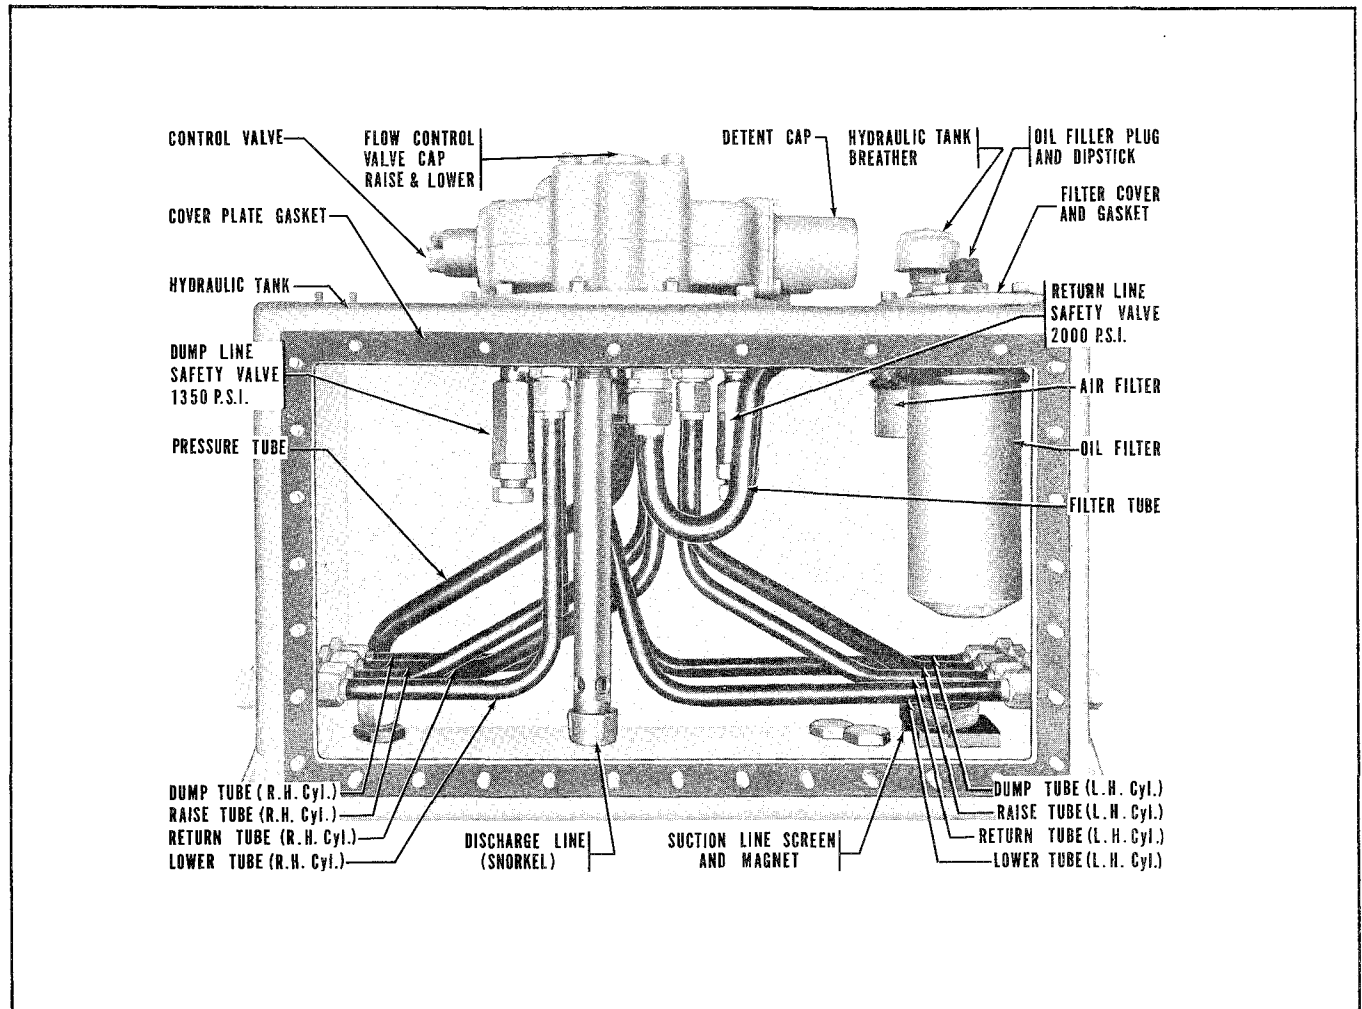

FIG. 7 - HYDRAULIC TANK
The dump line safety valve and the return line safety valve, located inside of the hydraulic tank as shown in Fig. 7, are properly adjusted at the factory and require no further adjustment in the field.
The oil filter, located inside of the hydraulic tank, as shown in Fig. 7, has a micronic element which should be replaced after every 100 hours of operation, or more often if conditions warrant. When the oil is at operating temperature, all oil is 100% filtered. Refer to Fig. 7 and replace the oil filter element as follows:
The tank breather (Fig. 7) should be serviced after every 10 hours of operation, or more often if conditions warrant. The breather element should be replaced after every 100 hours of operation. Clean the breather element as follows:
The element of the air filter, located inside the hydraulic tank as shown in Fig. 7, should be replaced after every 100 hours of operation, or more often when operating in extremely dusty conditions. Replace the filter element as follows:
It is important that the suction line screen and magnet (Fig. 7) be cleaned daily during the first week of operation or until the amount of foreign material collected daily has practically disappeared. Thereafter, the screen and magnet should be cleaned after every 100 hours of operation. These parts are accessible for cleaning by the removal of the air filter cover, filter element, and the air filter case and reaching down into the tank.
2. Reaching down into the hydraulic tank, push down on the bail to loosen the suction line screen baffle cup (Fig. 7) and remove the baffle cup and the suction screen. Remove the magnet (ring) from the suction line.
An oil level dipstick, attached to the oil filler plug (Fig. 7), is provided in the left front corner on top of the hydraulic tank. The oil level should be checked after every 10 hours of operation by removing the dipstick and oil filler plug. *NOTE: Make certain the loader is level before checking oil level. With the engine running at full throttle, raise the boom to radiator height. Actuate the bucket through its full travel several times to make certain the dump cylinders are full of oil, then fully retract the dump cylinders. Move the boom control lever to the LOWER position and lower the bucket to ground level, then return the control lever to its NEUTRAL (HOLD) position. Be sure the engine is running at full throttle when performing these operations. Stop the engine and check the oil level as follows:*